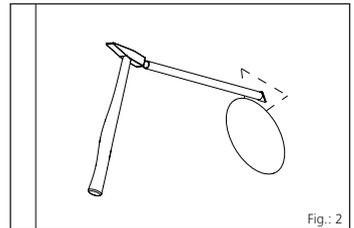

Fig.: 2
- 2** At the top of the hopper, pierce the core hole to allow the grouting component to flow more easily into the core hole (see fig.: 2).